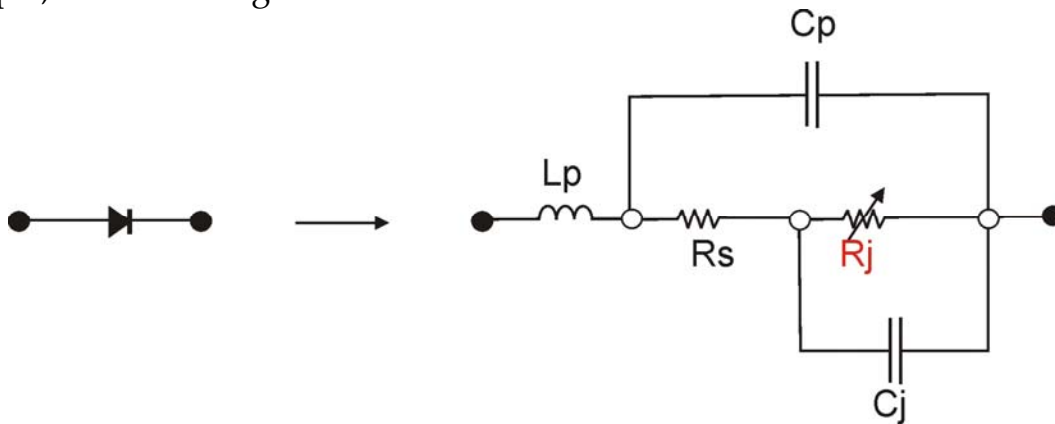
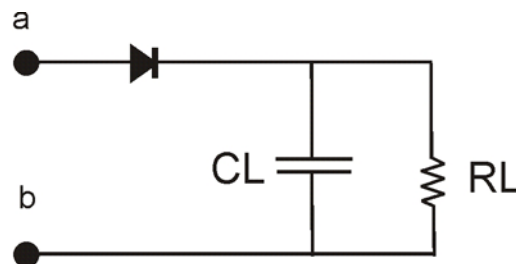

Fig. 1. Equivalent small-signal model of the diode including package parasitics.
Fig. 2. Basic schematic of the envelope detector.
Fig 1 shows the equivalent circuit for the Agilent HSMS-285x zero bias Schottky diode. The zero-bias diode is a low barrier Schottky device formed on p-type silica. The p-type offers the lowest possible cost, size, and complexity. Therefore, this diode is well suited for the mass production applications such as, for example, the RF ID tags1,2.
With or without external DC bias, Schottky diode detector circuits can be used to create low cost RF and microwave receivers with a sensitivity from -55 dBm to -57 dBm (see [2]). These circuits can have a variety of forms but in the simplest case they are equivalent to the book envelope detector circuit shown in Fig. 2.
This makes the matching problem really complicated. Using the results of this and previous sections one can find the input impedance to the envelope detector circuit shown in Fig2. Combining circuits in Fig. 1 and Fig. 2 one obtains:
3. How can you explain that the return loss in Fig. 1 is generally below 1 dB at any frequency? According to the power estimate it should be about -0.12 dB only. Do you think the ANSOFT simulations are correct?